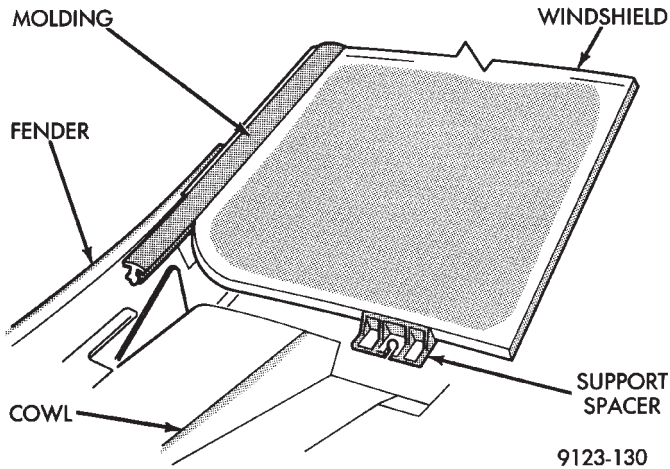

Fig. 1 Windshield Moldings
- (1) Remove inside rear view mirror.
- (2) Remove cowl cover. Refer to Cowl Cover Removal paragraph in this group.
- (3) Remove drip rail weatherstrips as necessary to gain access to screws holding windshield side moldings to A-pillars.
- (4) Remove screws holding windshield side moldings to A-pillars
- (5) Remove windshield moldings. (Fig. 1) Pull outward on molding at the bottom of A-pillars using pliers.